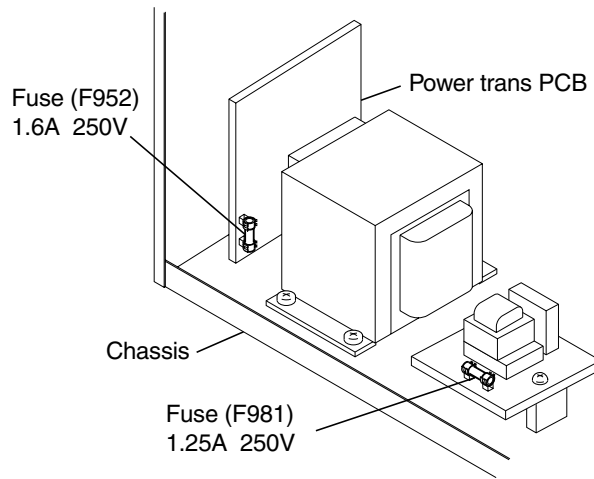

Fig.1
■ **Replacing the fuses (See Fig.1)**